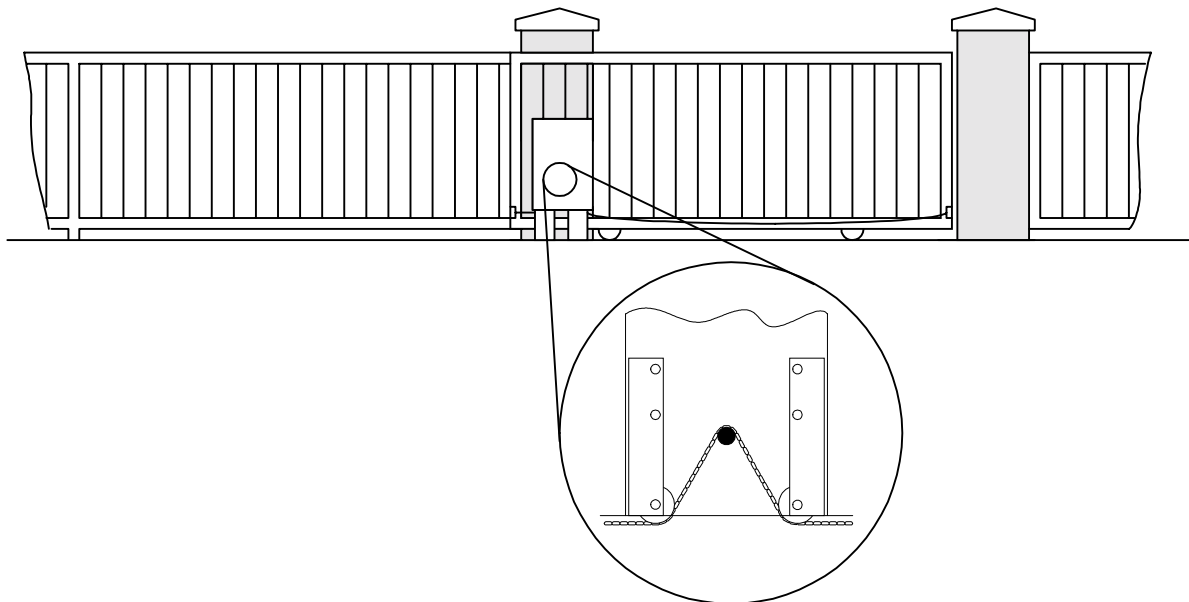

Figure 15
2. Route the chain through the gate operator: under the chain guide idlers and over the drive sprocket (Figure 15).